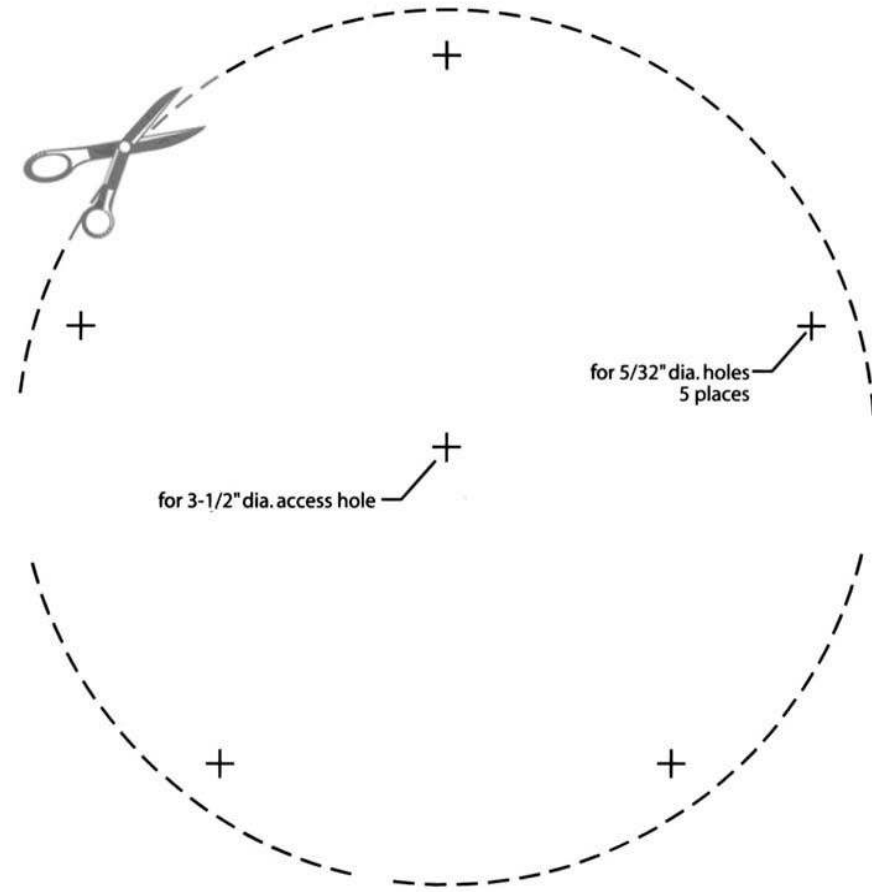

Figure 4 – Mounting Plate Template
3. Using the template (Figure 4), a center punch and a hammer, mark the locations for drilling the access hole (3-1/2”) and the mounting screw holes.